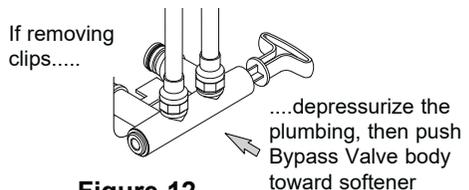

Figure 12
7. Check for leaks around clips at softener's inlet and outlet. If a leak occurs at a clip, depressurize the plumbing (turn off the water supply and open faucets) before removing clip. When removing clips at the softener's inlet or outlet, push the single bypass valve body toward the softener (See Figure 12). Improper removal may damage clips. Do not reinstall damaged clips.